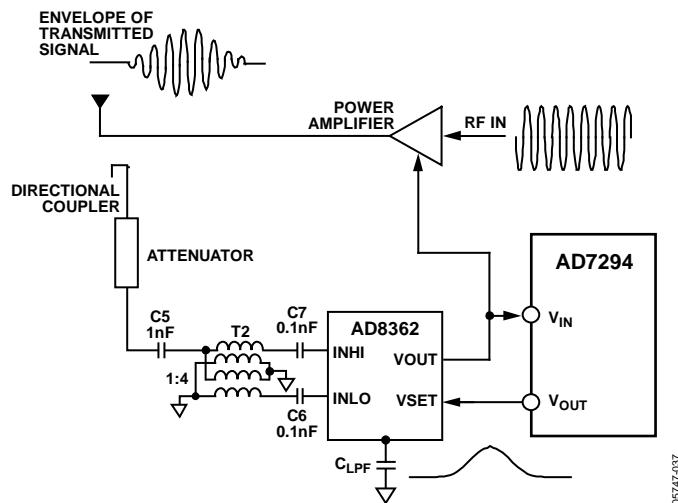

Figure 60. Setpoint Controller Operation
In gain control mode, a setpoint voltage, proportional in dB to the desired output power, is applied to a power detector such as the AD8362. A sample of the output power from the power amplifier (PA), through a directional coupler and attenuator (or by other means), is fed to the input of the AD8362. The V_{OUT} is connected to the gain control terminal of the PA, see Figure 60. Based on the defined relationship between V_{OUT} and the RF input signal, the AD8362 adjusts the voltage on V_{OUT} (V_{OUT} is now an error amplifier output) until the level at the RF input corresponds to the applied V_{SET}. The AD7294 completes a